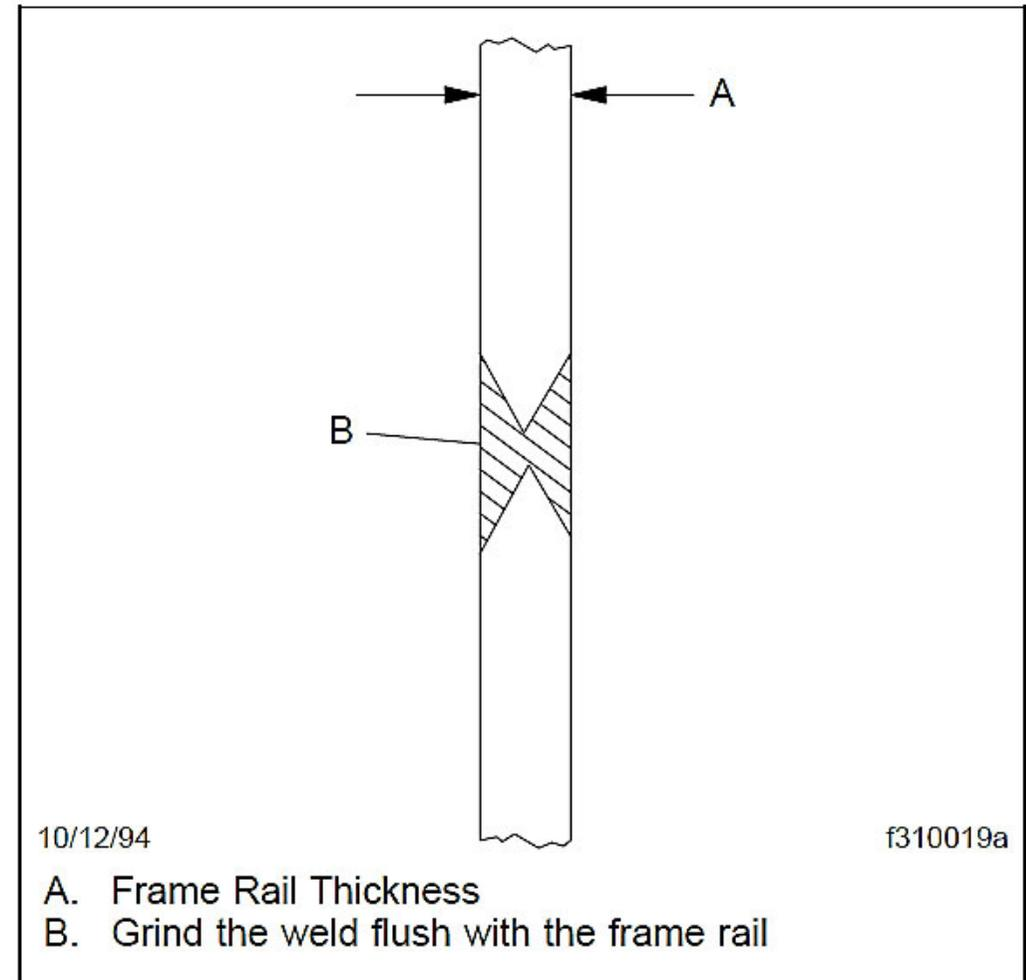

Fig. 8, Second Weld Ground Flush
- Grind the weld flush with the frame rail. See Fig. 8.